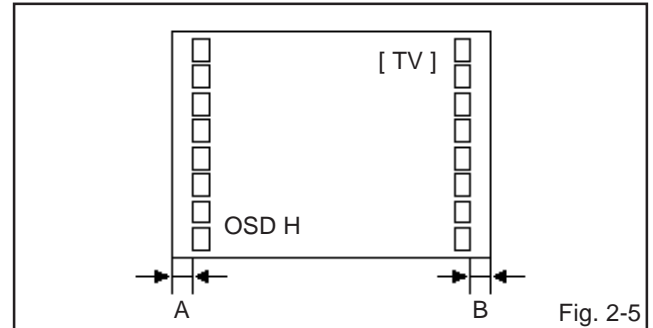

Fig. 2-5
4. Press the PLAY or STOP button on the remote control until the difference of A and B becomes minimum. **(Refer to Fig. 2-5)**